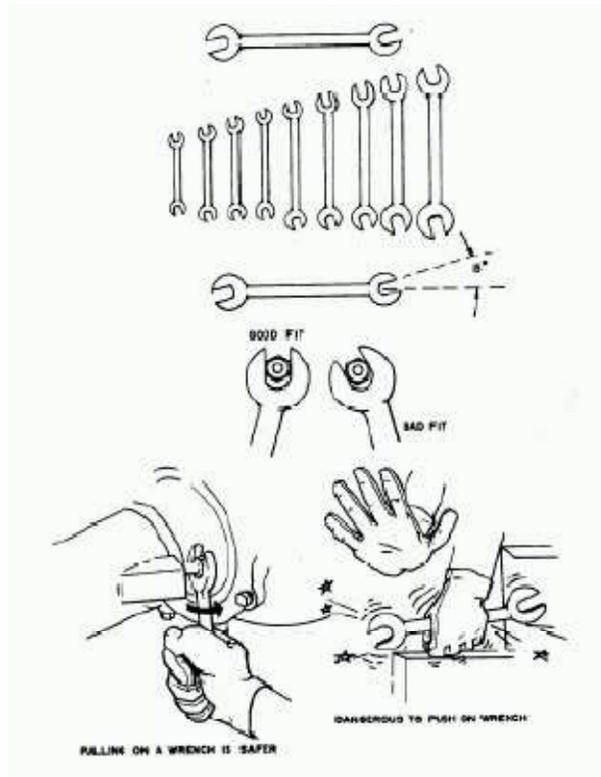

Figure 8-21. Open End Wrenches
Solid non-adjustable wrenches with openings in each end are called open-end wrenches. The average set in a tool kit numbers about 10 wrenches with openings that range from 5/16" to 1 inch. This combination of sizes will fit most of the nuts, cap-screws, and bolts normally used. See Figure 8-21.
3. Always PULL on a wrench—don't PUSH. If one pushes on a wrench and the nut breaks loose, you will invariably strike your knuckles. (See Figure 8-21.)